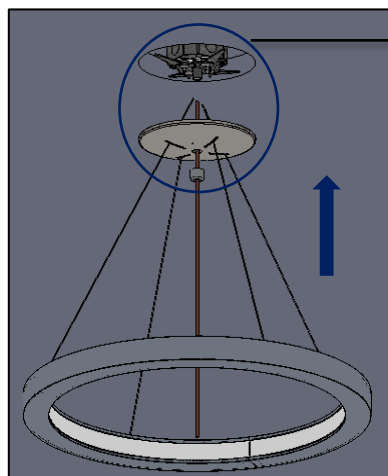

FIG. 17 - INSTALLATION VIEW
9. Raise the REV LUMINAIRE up, with multiple people, to the ceiling and feed the AIRCRAFT CABLE through the GRIPLOCK and CORD through NIPPLE which is available in MOUNTING BRACKET ASSEMBLY. Adjust the AIRCRAFT CABLE to the desired length as shown in FIG. 17 & 18 below.